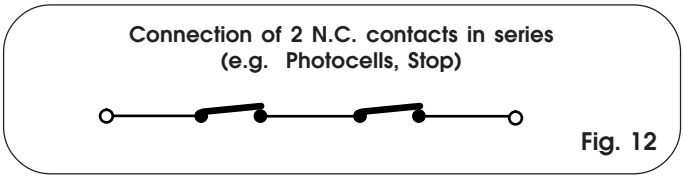

Fig. 12
**N.B. If two or more devices have the same function (opening or closing), they should be connected to each other in series (see fig. 12). N.C. contacts must be used.**
To install several STOP devices, connect the N.C. contacts in series (see fig. 12).